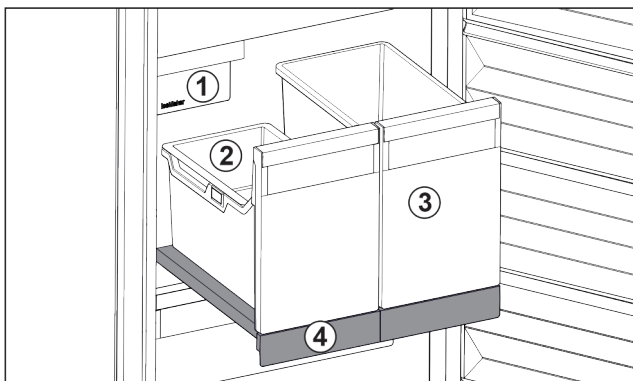

Fig. 32 Pull-out board with IceTower
(2) Hang-on tray for ice cubes
(4) Pull-out board
There are two high (IceTower) containers on the pull-out board. Ice cubes from the IceMaker are collected and stored in the Fig. 32 (2) container. The container Fig. 32 (3) is suitable for storing tall foodstuffs or beverages such as pizzas or alcoholic drinks.